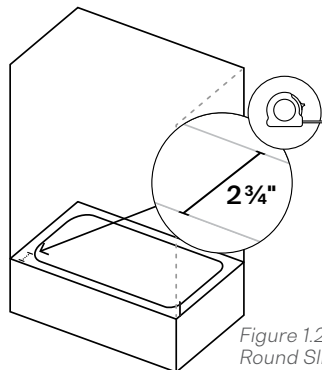

Figure 1.2 Equinox Bronze Tint Round Slider Minimum Threshold Width
- Verify Threshold Width** - If your shower installation features a raised threshold, the completed threshold must be a minimum width of **2 ¾"** or this model will not fit your space. (Fig. 1.2)